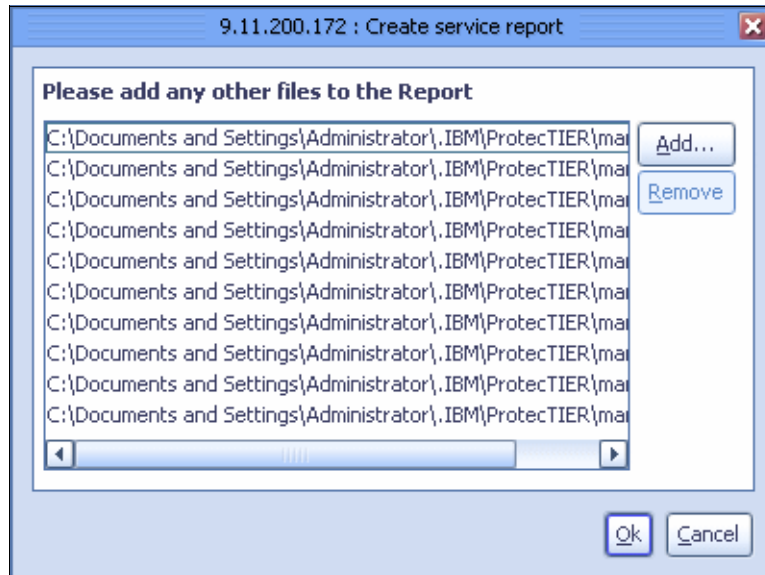

Figure 10-73 Adding additional files to the report
7. Optionally, click **Yes** to browse for additional files to add to the report if IBM Support requests additional log files (Figure 10-73).